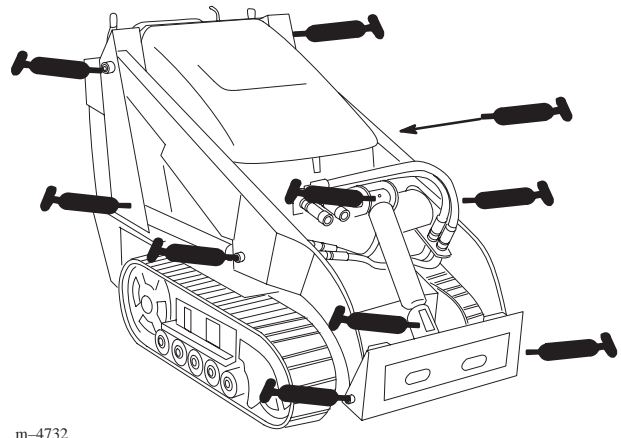

Figure 41
3. Connect a grease gun to each fitting (Fig 41 and 42).